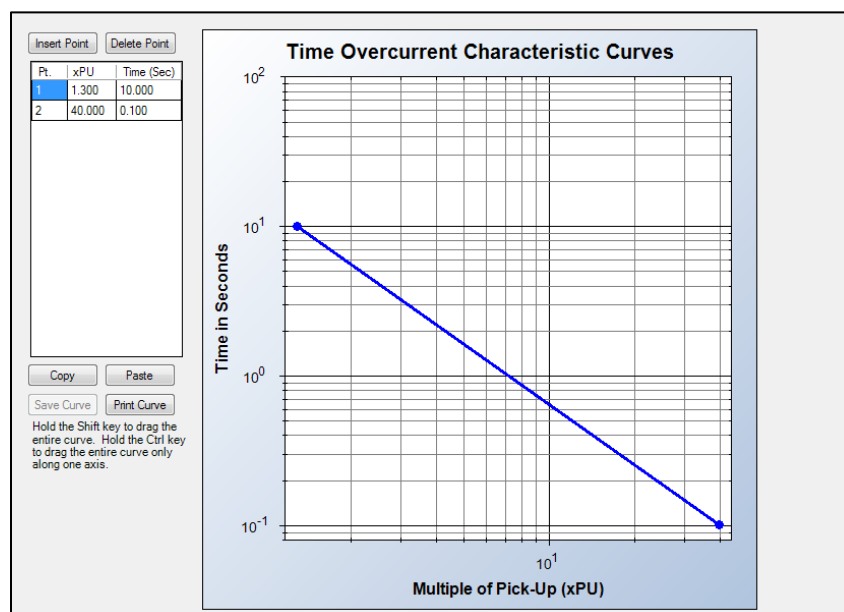

Figure 8-1. DC Overcurrent Table Curve
*BESTCOMSPUs* is used to set the 76 element Table Curves (T1, T2, T3, and T4). Using the Settings Explorer within *BESTCOMSPUs*, open the Protection, Current, Table Curve (1, 2, 3, or 4) tree branch and select the table curve to be modified. Refer to Figure 8-1. A minimum of 2 and maximum of 40 points can be entered for any one T curve. When you are satisfied with the values chosen, select Save Curve. Use the Settings Explorer to browse to the 76-x element you wish to program and use the drop-down menu under Curve to select T1, T2, T3, or T4.